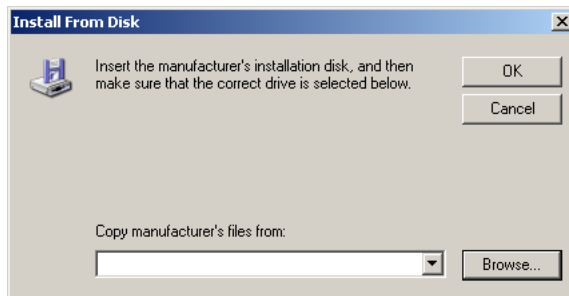

Figure 10. Install From Disk Window
5. Select **Have Disk**. The Install From Disk window opens (see Figure 10).